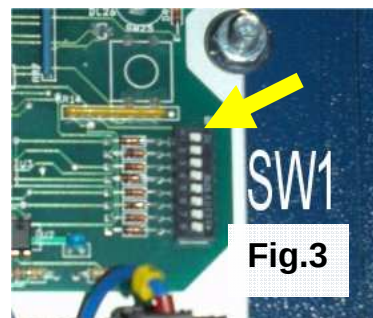

Fig.3
2. Move the switch 1 of SW1 to position "ON" (see Fig.3)
5. Move back the switch 1 of the SW1 to position "OFF"(see Fig.3)
11. Move back the switch 1 of the SW1 to position "OFF"(see Fig.3)
2. Move the switch 7 of SW1 to position “ON” (see Fig.3)
7. Move back the switch 7 of the SW1 to position “OFF” (see Fig.3)